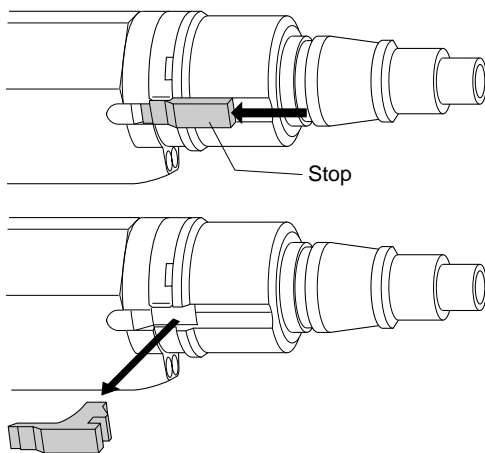

Figure 2 - Removing Stop
2. Using thumb, push stop towards rear of tool and remove (see Figure 2).
4. Snap shear clip in place (see item 20, page 17, for shear clip location).
6. Replace stop. After placing stop in hole on liner, move stop towards front of tool (see Figure 2, page 18 for stop location).